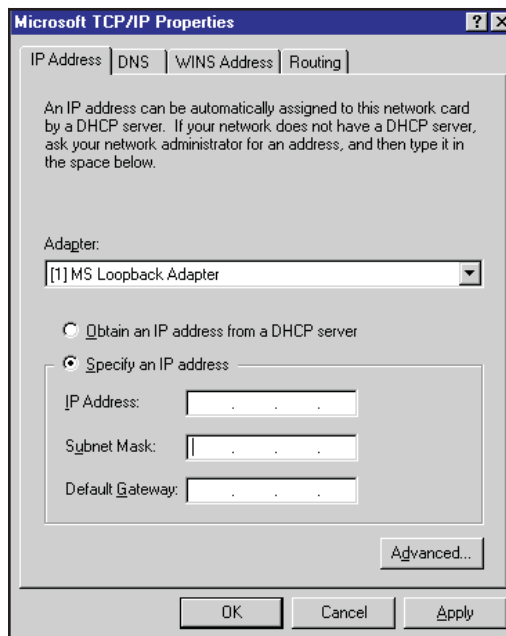

Figure 206 Microsoft TCP/IP Properties
5. Press the Close pushbutton to exit the Network setting dialog. At this time you will be prompted (via a dialog shown in Figure 206) for setup of TCP/IP properties.